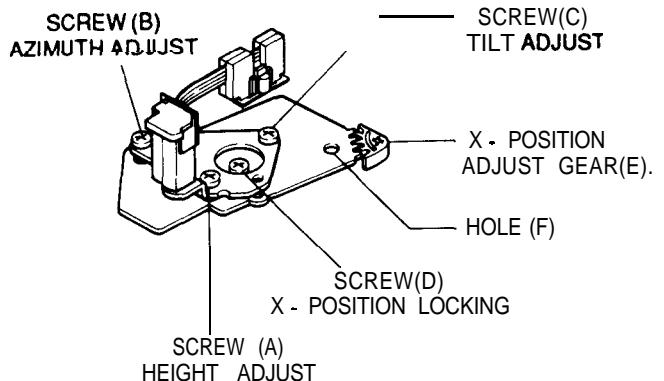

Fig. 4 Location of A/C Head Adjustment Screw
3. Turn screws(A), (B), (C) clockwise or counterclockwise until the gap of the lower tape edge and the lower edge of the control head is about 0.25 mm. (Refer to Fig. 4, and 5.)
3. Adjust screw (B) vertically to achieve maximum audio level. (See Fig. 4)
6. Turn the screw (E) counterclockwise (See Fig. 4).